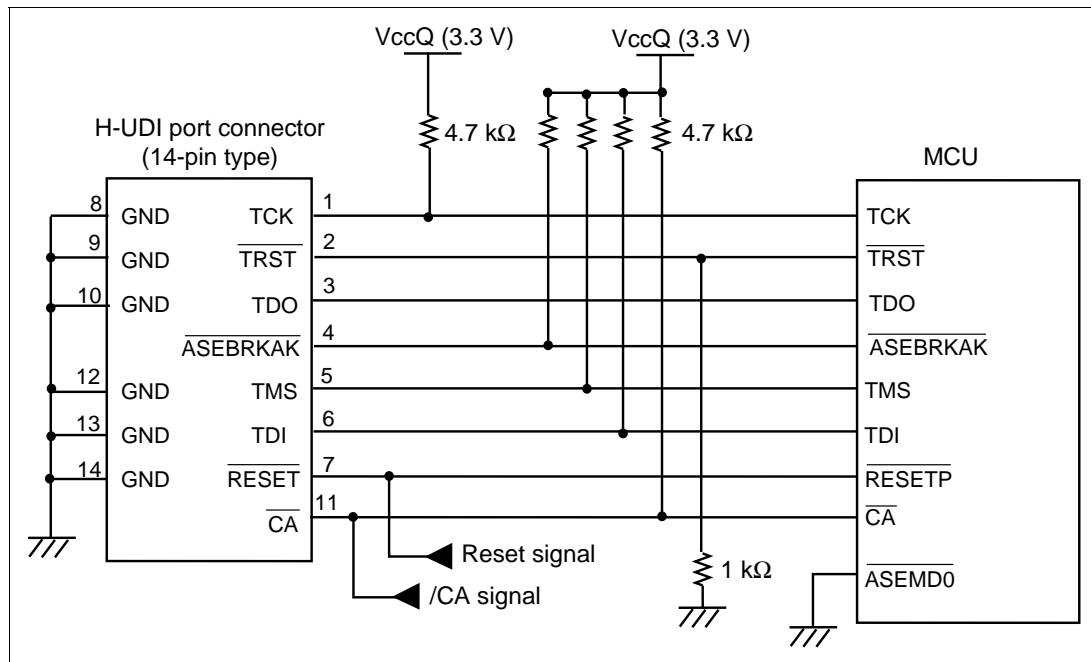

Figure 4.2 Recommended Circuit for Connection between the H-UDI Port Connector and MCU (14-Pin Type)
Figure 4.2 shows a recommended circuit for connection between the H-UDI port connector (14 pins) and the MCU.
- (1) When the emulator is used: /ASEMD0 = low (ASE mode)
- (2) When the emulator is not used: /ASEMD0 = high (normal mode)
8. The resistance values shown in figure 4.2 are recommended.